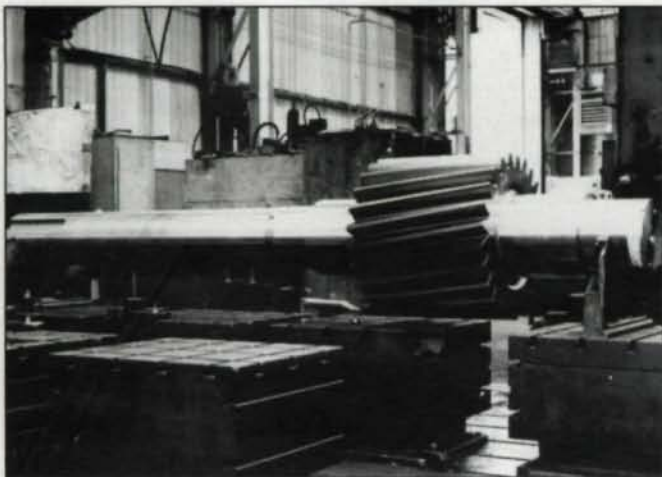

Fig. 21—Mill pinions on girth gear driven rotating mills.
- Mill pinions on girth gear driven rotating mills where the pinion mates with a cast steel wheel (Fig. 21).